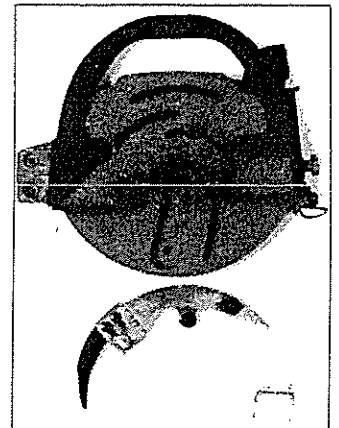

Fig. 48
- (v) Mount the standard sawblade guard, having removed the riving knife and its support bracket completely from within the guard (Fig. 48)